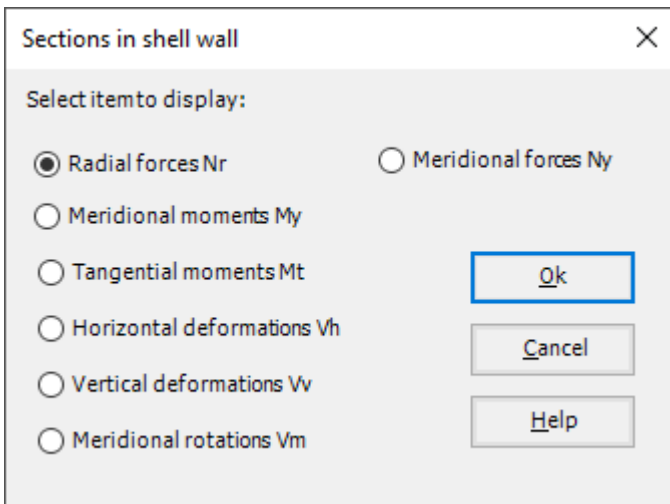

Figure 13.26 "Sections in shell wall" option box
- Choose "Sections in shell wall" command from "Section" menu. The following option box in Figure 13.26 appears